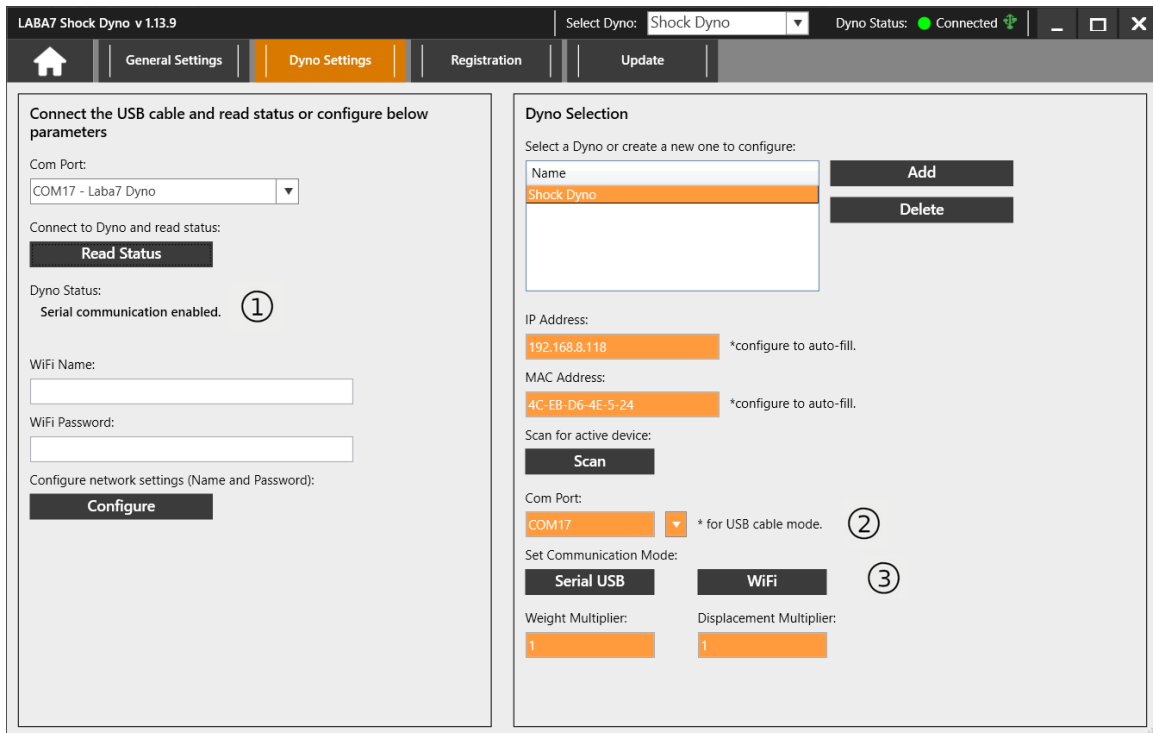

Figure 19
10. Note the Status that was received from Dyno (Figure 19 – Step 1).
12. Select the Com Port of the connected the Dyno from the drop-down menu in Dyno Selection area (Figure 19 – Step 2).
13. Click the Serial USB button to enable USB communication mode in the Dyno (Figure 19 – Step 3).